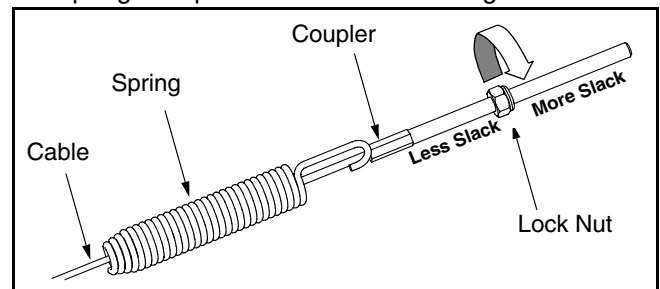

Figure 10
- Push the cable coupler through the end of the spring to expose the lock nut. See Figure 10.
- Thread the lock nut outward (down the coupler) to provide more slack in the cable or thread the lock nut inward (up the coupler) to provide less slack in the cable. Refer to Figure 10.